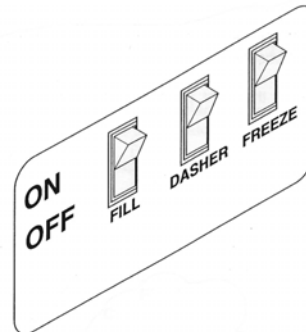

Fig. 1
1. Set the **"FILL"** and **"FREEZE"** switches to the **"OFF"** position (Fig. 1).